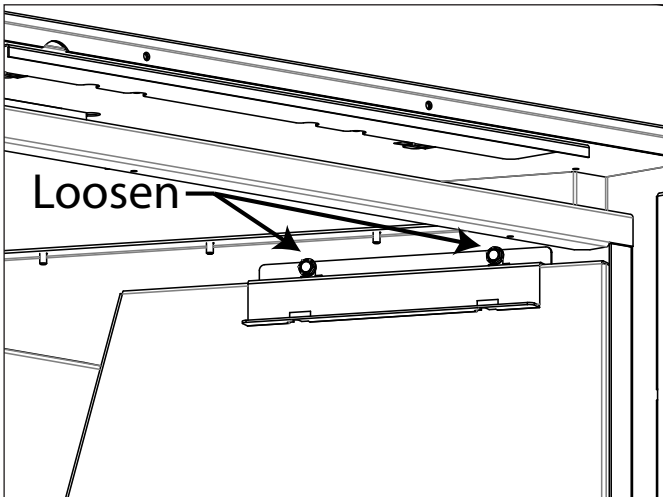

Figure 22: Liner Retainer Removal
6. The components can be accessed behind the right liner panel. Loosen the two (2) bolts on the right liner retainer using a 5/16" socket until it can be removed. See Figure 22.